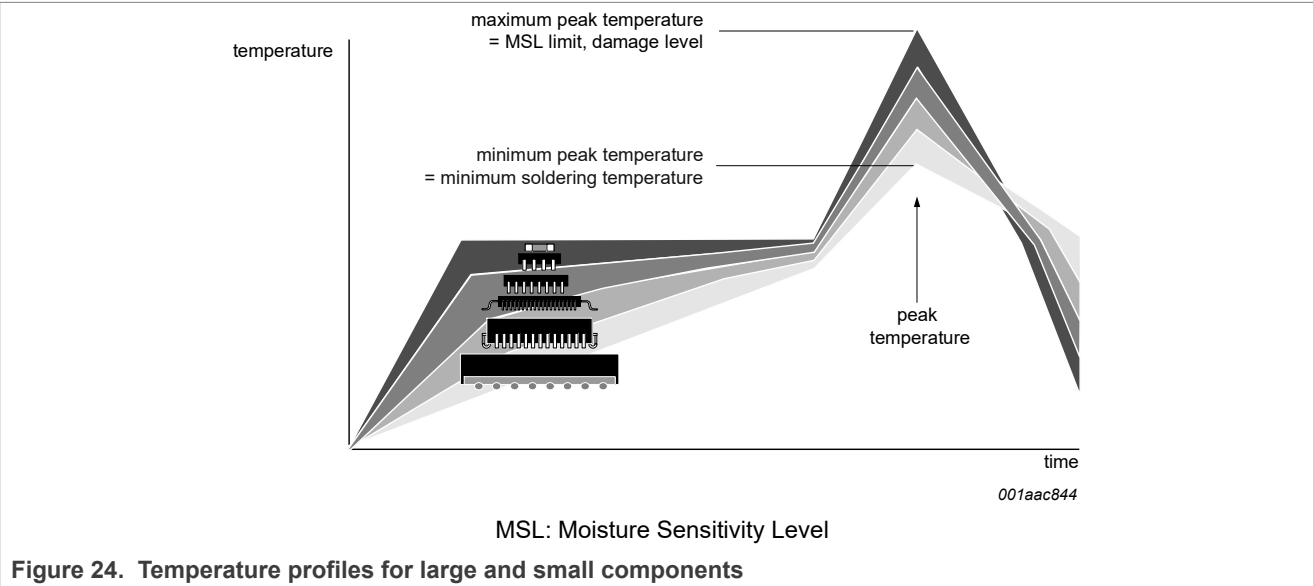

Figure 24. Temperature profiles for large and small components
- Lead-free versus SnPb soldering; note that a lead-free reflow process usually leads to higher minimum peak temperatures (see Figure 24) than a SnPb process, thus reducing the process window
Studies have shown that small packages reach higher temperatures during reflow soldering, see Figure 24.